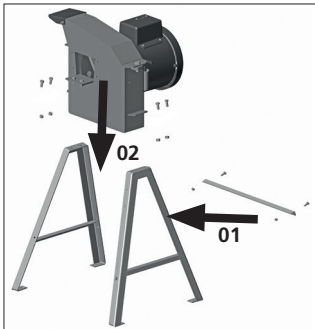

Fig. 01
Assemble the body of the machine on top of the trestles using M8 x 20 mm screws (2), [Fig. 01].